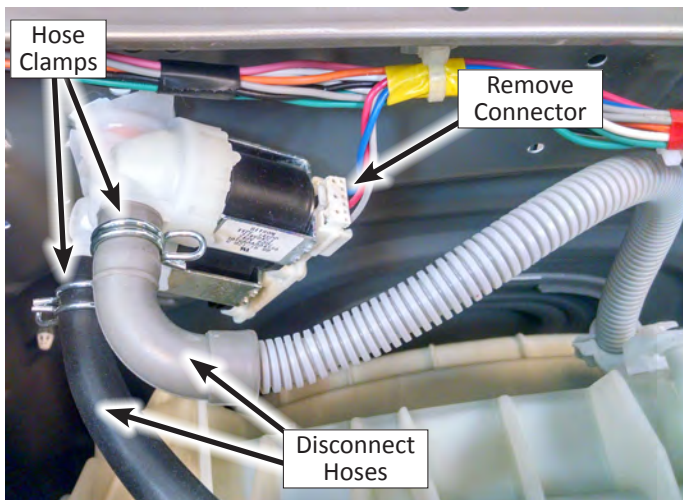

Figure 1
5. Disconnect the inlet valve connector (see Figure 1).
7. Slide the two (2) inlet valve clamps away from the valve assembly and remove the two hoses (see Figure 1).